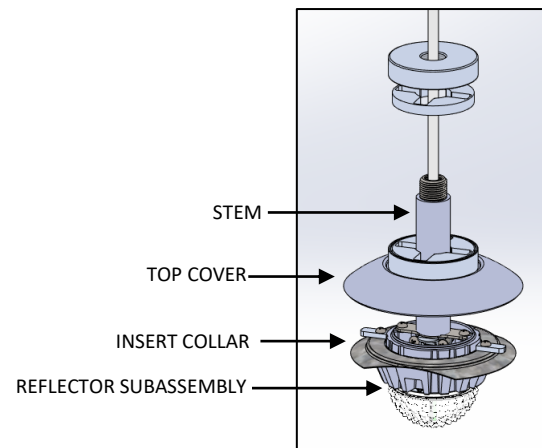

FIG. 38 – REFLECTOR DISSASSEMBLY
30. Lift TOP COVER from the REFLECTOR ASSEMBLY as shown below in FIG. 38. Be careful not to scratch the finish.